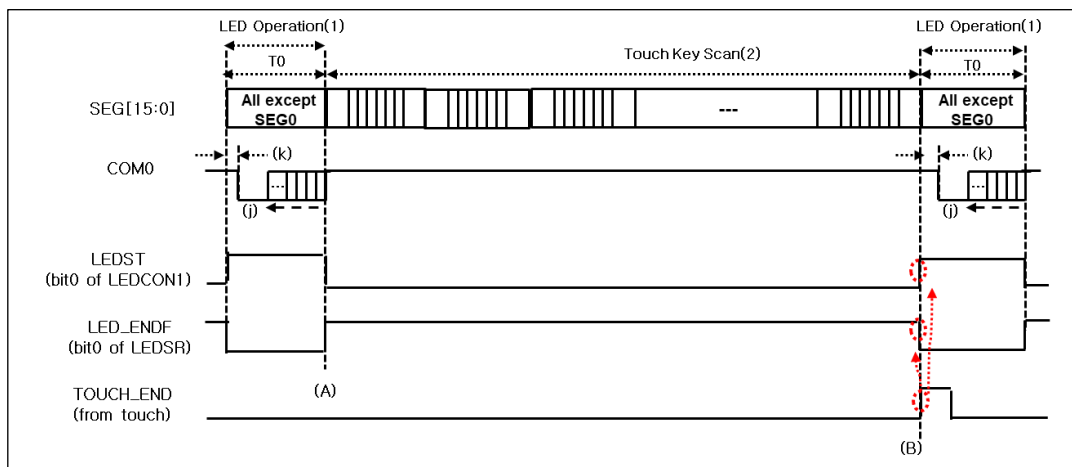

Figure 108. Hand Shake Mode
Figure 108 show the hand shake mode in the case of CSER = 0000_0001B. Frame cycle is defined by sum of LED operation (1) and touch key scan (2). It is the minimum cycle without flicker.